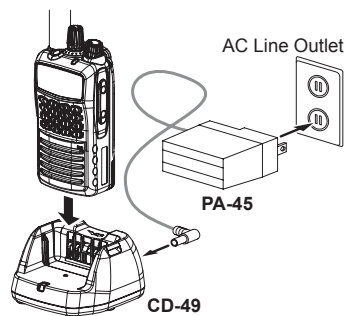

FIGURE 2
- ❑ Referring to Figure 2, insert the DC plug from the optional **PA-45** AC Adapter into the DC jack on the rear panel of the **CD-49** Desktop Charger, and then plug the **PA-45** AC Adapter into the AC line outlet.